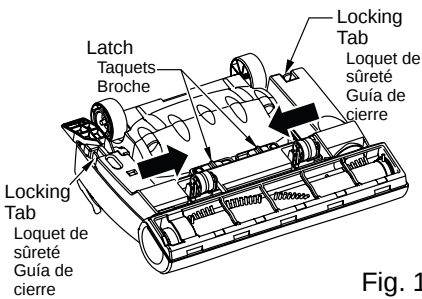

Fig. 1
Release lower plate by pressing two (2) latches and two (2) locking tabs inward as shown. (Fig. 1)